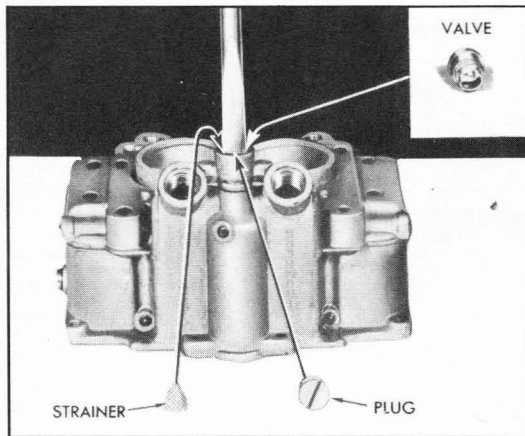

Figure 3-84—Removing Inlet Check Valve
16. Remove pump inlet check valve plug and gasket. Remove strainer and inlet check valve. See figure 3-84.
4. Install pump inlet check valve. See figure 3-84.